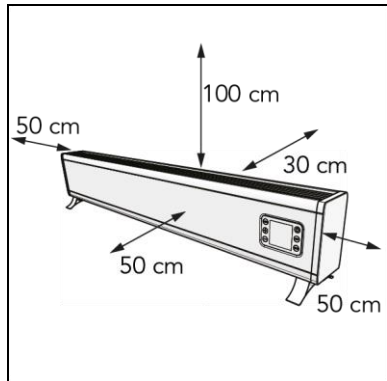

Figure 7
5. Place the device with a minimum clearance distance (Figure 7) of: